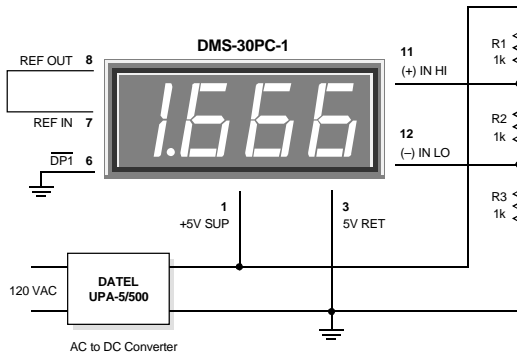

Figure 3. Differential Input Configuration
2. Differential Input Configurations: Differential measurements can be made with all DMS-30PC meters. Figure 3, though not a practical real-world application, uses a voltage divider to demonstrate the concept of a differential input signal. Be careful not to exceed the ±2V common mode voltage limitation for 5V-powered meters.